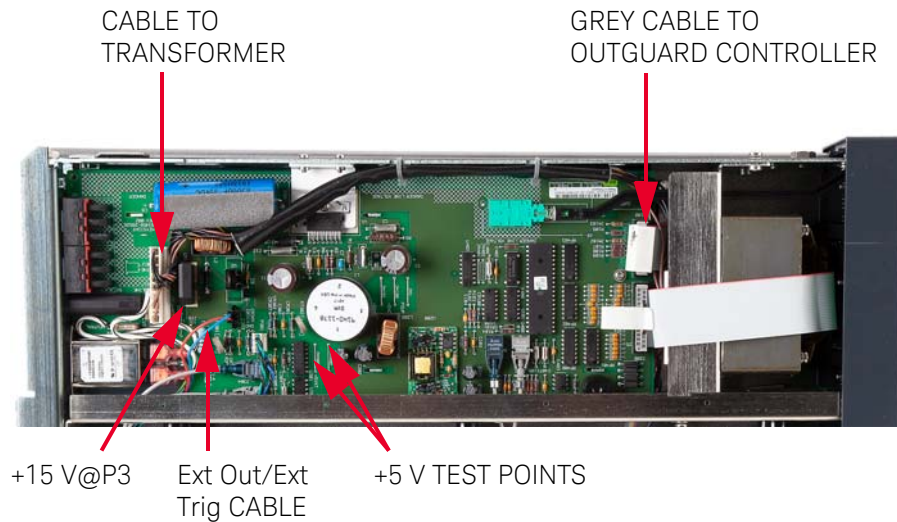

Figure 4-2 Outguard power supply
- 2** Refer to Figure 4-2 to locate the Ext Out/Ext Trig cable plugged in on the Outguard Power Supply (A6) assembly. Unplug the cable from socket P301.
- 2 Refer to Figure 4-2. Unplug the 2-pin cable from socket P3. The cable is connected to the fan.
- 3 Turn the instrument on. Use a digital multimeter to measure for approximately +15 V at socket P3, as shown in Figure 4-2.
- b Refer to Figure 4-2 to locate the 8-pin cable that connects the Outguard Power Supply (A6) assembly to the power transformer. Unplug the cable at the power supply assembly.
- 2** Refer to Figure 4-2. With the test digital multimeter, check for +5 V (± 0.25 V) at the test points shown in the figure.
- 6** Refer to Figure 4-2. Unplug the gray 20 pin cable connected to the Outguard Controller (A5) assembly.